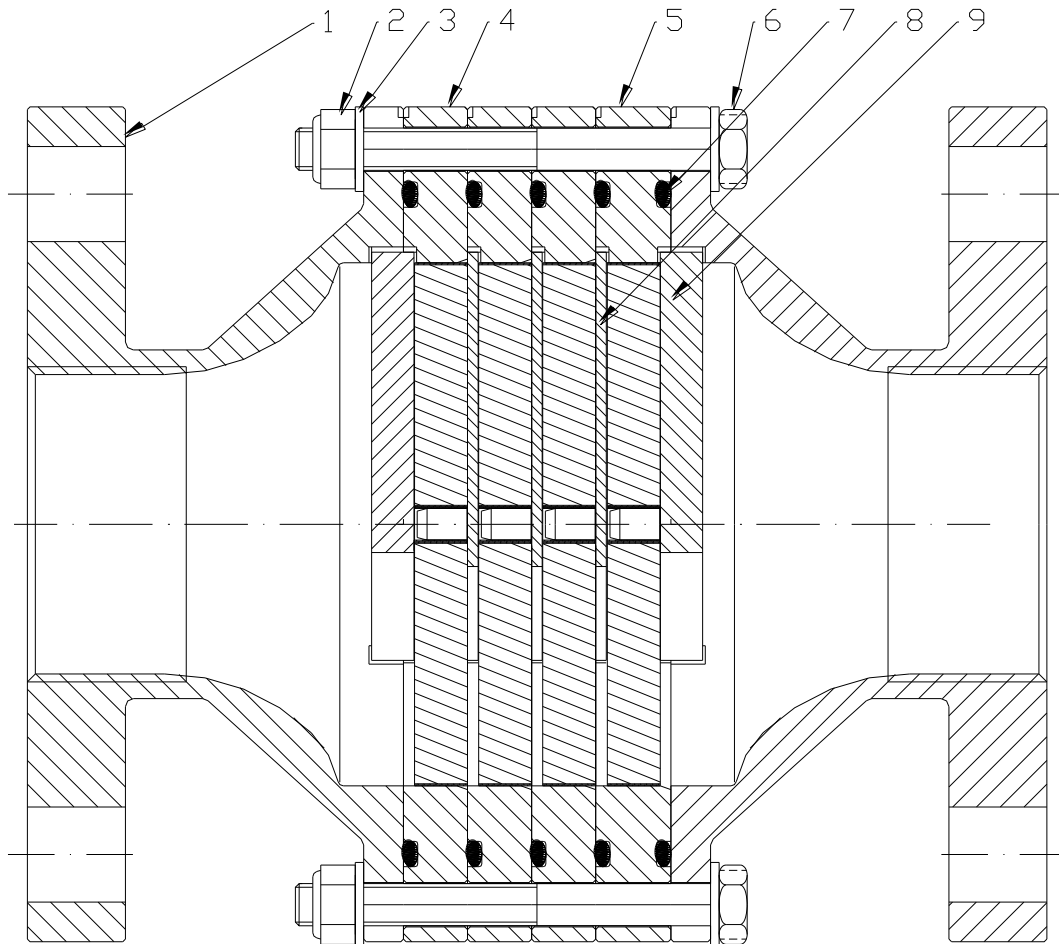

Fig. 1
(See fig. 1)
- Spare part no. (Please refer to **fig. 1** for items)